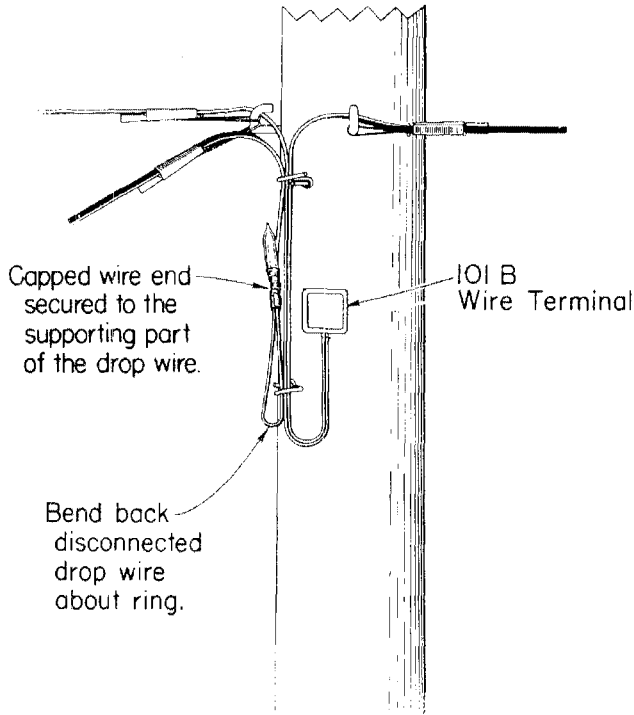

Fig. 9 – 101B Wire Terminal, Pole Mounted
4.01 Party Line Taps in Drop Wire Runs Along a Lead: Pull the free end of wire out of the wire terminal, tag and cap it and secure to the supporting part of the drop as shown in Fig. 9. If the party line extending beyond the wire terminal pole is disconnected, treat its free